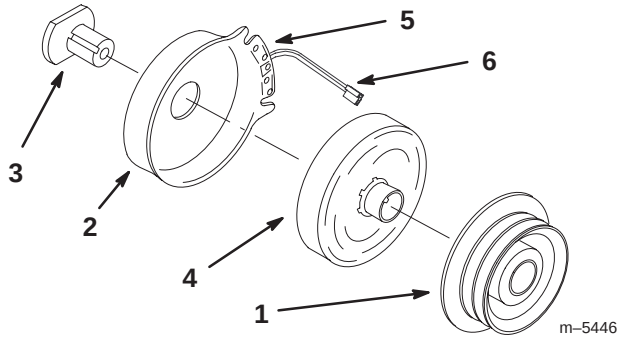

Figure 3
1. Remove the pulley and armature assembly from the clutch assembly (Fig. 3).
6. Connect the wire lead from clutch (Fig. 3).
3. Install new rotor into assembly and onto the rotor post (Fig. 3).
4. Install new armature and pulley onto the rotor and under the clutch magnets (Fig. 3).